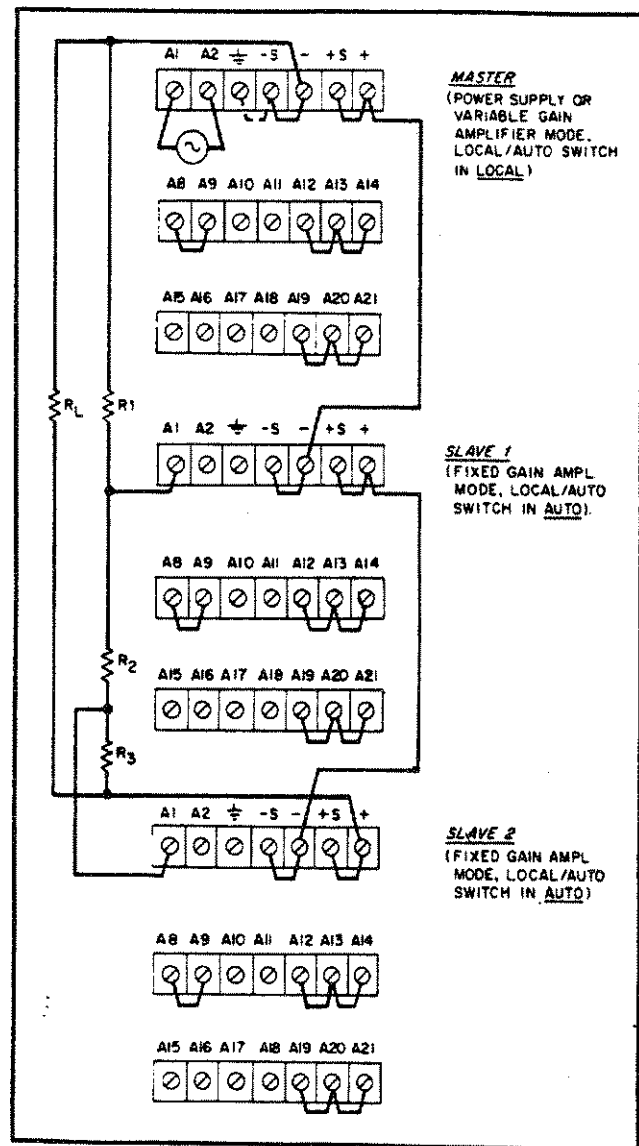

Figure 3-12. Auto-Series Connections, Three Units
**3-59 Auto-Series Operation.** Two or more BPS/A's can be connected in an auto-series arrangement to obtain a higher output voltage than that available from a single supply. Figure 3-12 illustrates the auto-series connections for three supplies. When this arrangement is used, the output voltage of each slave supply varies in accordance with that of the master supply; thus, the total output voltage of the combination is determined by the master supply's front panel VOLTAGE control (or remote programming input). The front panel CURRENT controls (or remote programming inputs) of all three units are operative and the current limit is equal to the lowest setting. The slave units must be floated off ground. Instruments can be operated floating up to 300 volts off ground whether operated singly or in series.